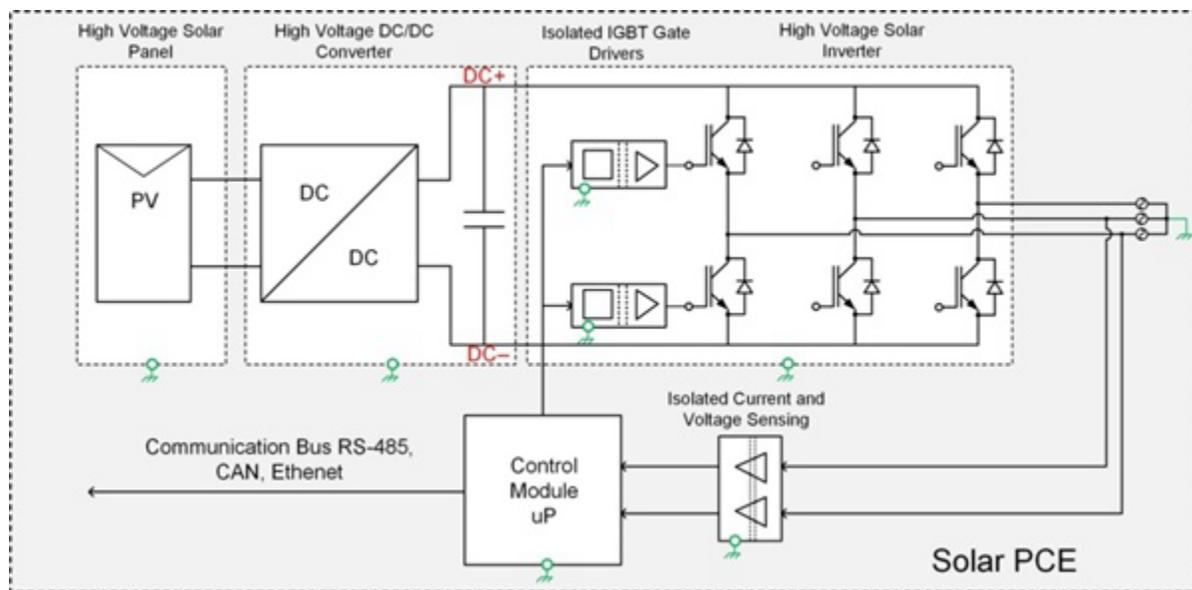
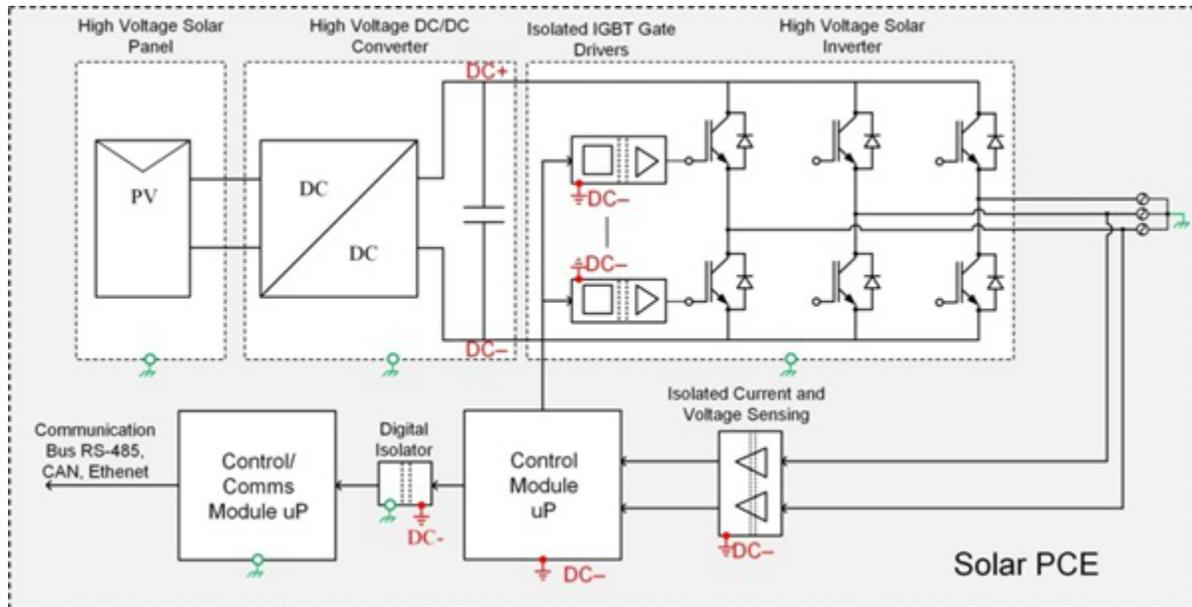

Figure 1. Typical System Block Diagram of a Transformerless Solar Power Conversion System
Figure 2. Alternative System Block Diagram of a Transformerless Solar Power Conversion System
Figure 1 shows a simplified system block diagram of a transformerless grid-tied solar power conversion system. The solar power is harvested by a photovoltaic (PV) panel and processed by post-stage DC/DC and DC/AC converters. The DC/DC converter implements maximum power-point tracking (MPPT) of the solar energy. The DC/AC inverter converts DC power to AC power for interfacing to a utility grid.
Additionally, the control module has parts that are accessible to humans; for example, the connectors of the communication interface. Sufficient safety isolation is required between these exposed parts and the high-voltage circuits (circuitry connected to the DC buses and utility grids). Isolated gate drivers, isolated voltage amplifiers and current-sense amplifiers can achieve this isolation. In Figure 1, which shows a human-accessible control module, the input side of the isolated gate drivers and the input side of the isolated amplifiers are
referenced to ground, which is safety-isolated from the high-voltage systems. Figure 2 shows how to introduce additional isolation between the control module and communication interface.
Safety isolation is possible through either two basic isolators in series or one reinforced isolator. In Figure 1, the isolated gate drivers, and isolated voltage and current-sensing circuits both need to support reinforced isolation. In Figure 2, the digital isolator needs to support reinforced isolation because the isolated gate drivers and amplifiers are referenced to DC-, and only functional isolations are implemented.